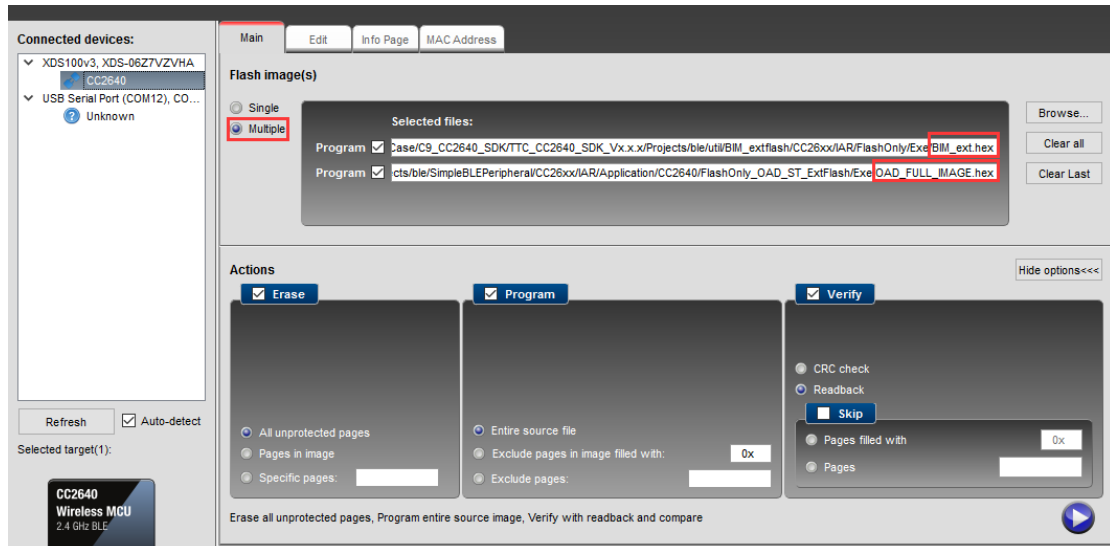

图 2-4-1 Program
(1) Open Flash Programmer 2, select Multiple mode, load two flash image files, and program. As shown in Figure 2-4-1.
- 3.1 steps (3) Generated BIM_ext.hex